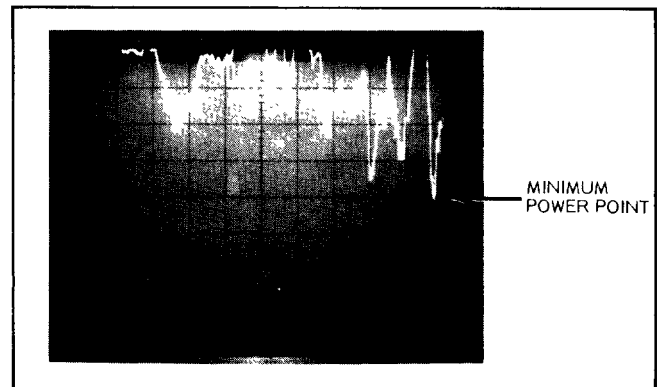

Figure 5-29. Minimum Power Point on Leveled Output Power Signal
2. operate the INCREASE-DECREASE lever to place the minimum-power point of the 560's displayed trace (Figure 5-29) on the center graticule line.